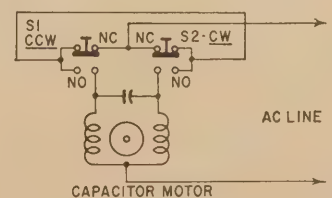

Fig. 1—Protective circuit for capacitor motors.
Fig. 1 shows such a modification as applied to a capacitor type motor. In this circuit, when S1 is depressed to produce counterclockwise rotation, current flows from the line through S2's normally closed (NC) contact through the switch-arm interconnection and finally through S1 to the motor. Pressing S2 for clockwise rotation does the same thing, but through the opposite switch and motor winding. If both buttons are pressed simultaneously, the line is disconnected and nothing happens.